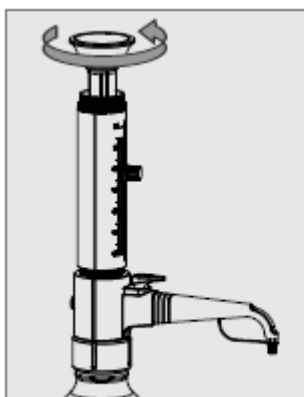

Fig. 9
1. Unscrew the head as shown in Fig. 9